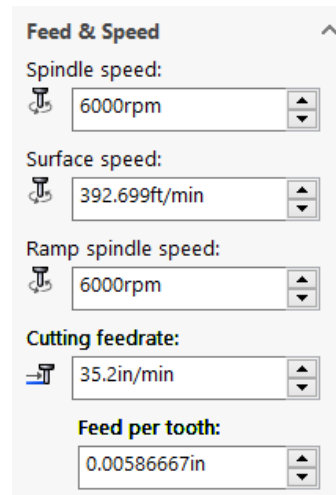

Figure 14: Feed Rate
- Feed Rate - 35.2in/min (Fig 14)